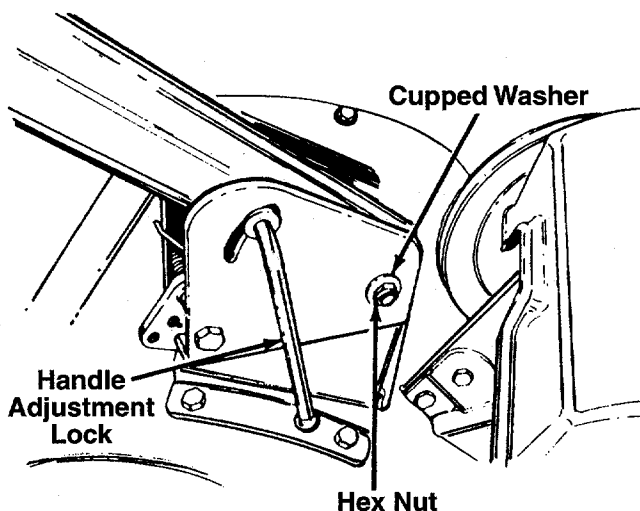

FIGURE 3.
4. Secure bottom of handle by placing cupped washer (cupped side against the pivot bracket) and hex nut on hex bolt. Do not tighten at this time. See figure 3.
6. Line up holes in handle with slots in handle pivot bracket. Insert handle adjustment lock through handle pivot bracket and handle assembly. See figure 3. Thread end of handle adjustment crank into the flange nut in the retainer and tighten.